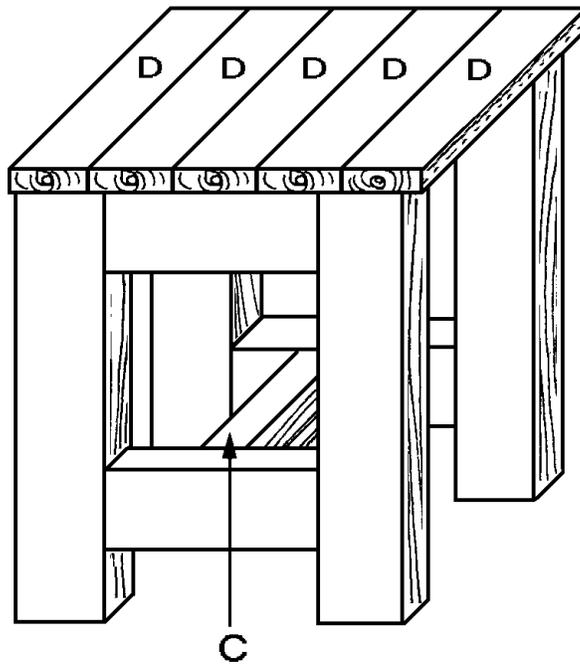

Figure 3
1. Cut five slats (D) from 1 x 4 treated lumber, each 17 inches long.
2. Place the five slats (D) side-by-side on top of the base assembly (*Figure 3*) with their cut ends facing the sides. They should overhang the base on all four sides by about 1/2 inch. Secure the four slats by screwing them to the base assembly using 1-1/2"-long screws. (TIP: it looks much nicer if you draw a line on the slats from the front of the base to the back, about 1 inch from the slat ends, and place all of your screws on that line.) Put two screws on each end of each slat, and space them uniformly on all slats.